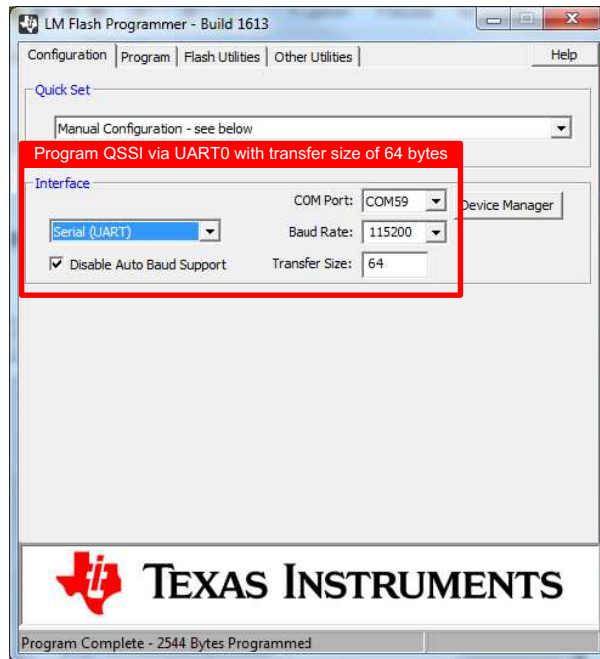
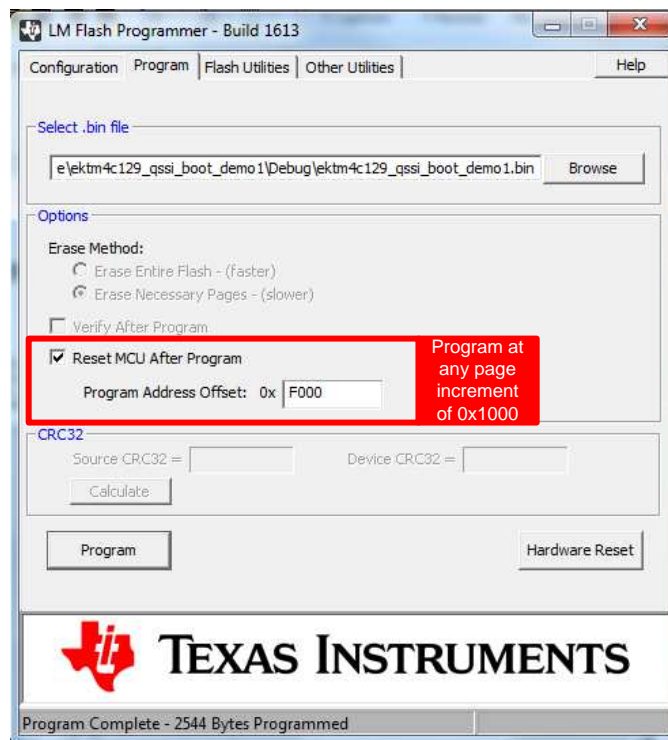

图 14. LM Flash Programmer QSSI Boot Demo1 Programming - Interface Settings (UART)
图 15. LM Flash Programmer QSSI Boot Demo 1 Programming - Options (Address Offset)
- Using the LM Flash Programmer in serial mode, download ektm4c129_qssi_boot_demo1. Ensure Disable Auto Baud Support is checked. Select the correct COM port. Ensure the Transfer Size is 64 bytes or less. On the Program Tab, select the Program Address Offset as the start of a sector of QSSI Flash other than Sector-0. (For the setting of the LM Flash Programmer for downloading the demo code, see 图 14 and 图 15. When the demo code downloads, the LED D3 will start blinking.)